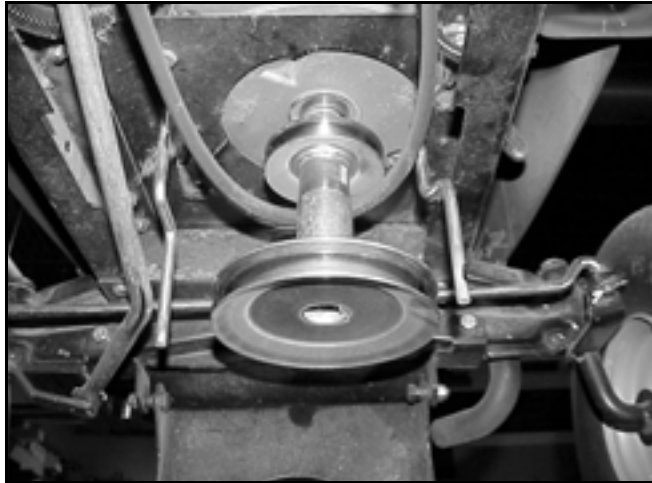

Figure 26
3. Loosen and move the right and left engine belt guides (Figure 26).